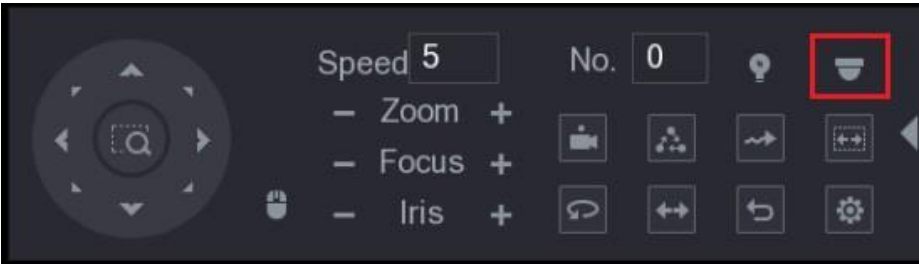

Figure 4-6
Step 3 Click  to see more options. See Figure 4-6.